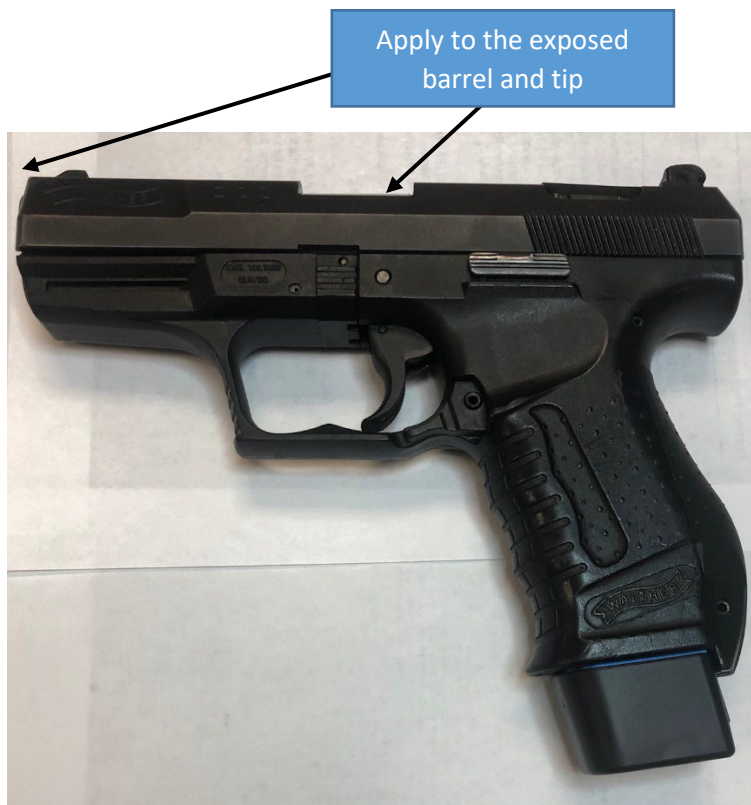

Figure 3: Lubrication
- Use a cotton swab or microfiber cloth to apply a thin layer of approved lubricant to the exposed portions of the kit (Figure 3).